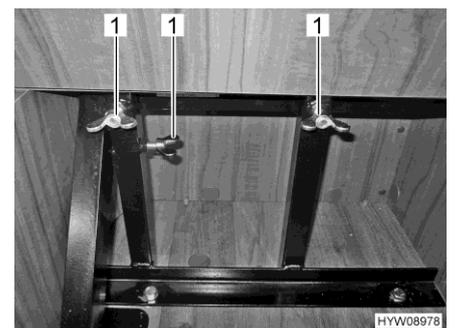

Fig. 23 Secure the attachable seat with wing nuts
- Secure the attachable seat with wing nuts (Fig. 23,1).